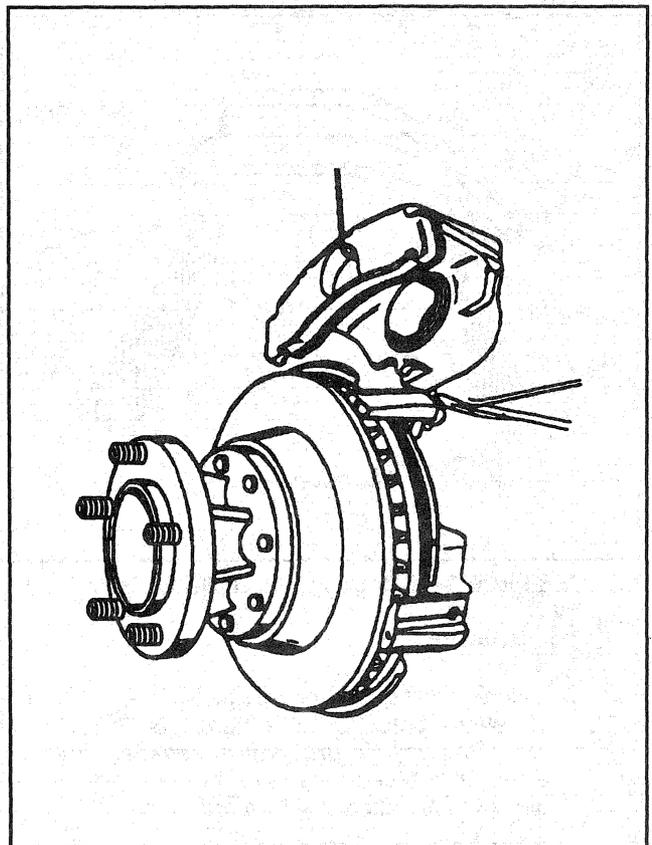

Figure 7—Suspending the Caliper
↔ Remove or Disconnect (Figures 7 and 8)
- Suspend the caliper (Figure 7).